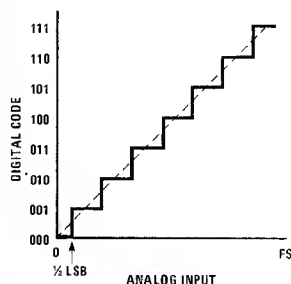
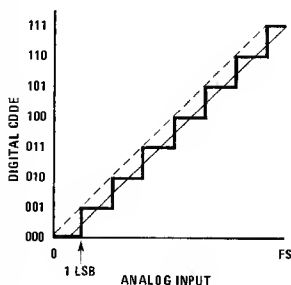

FIGURE 2. ADC Transfer Curve,  $\frac{1}{2}$  LSB Offset at Zero
FIGURE 3. ADC Transfer Curve, No Offset
**Quantizing Error** is the maximum deviation from a straight line transfer function of a perfect ADC. As, by its very nature, an ADC quantizes the analog input into a finite number of output codes, only an infinite resolution ADC would exhibit zero quantizing error. A perfect ADC, suitably offset  $\frac{1}{2}$  LSB at zero scale as shown in figure 2, exhibits only  $\pm\frac{1}{2}$  LSB maximum output error. If not offset, the error will be  $\pm 1$  LSB as shown in figure 3. For example, a perfect 12-bit ADC will show a  $\pm\frac{1}{2}$  LSB error of  $\pm 0.0122\%$  while the quantizing error of an 8-bit ADC is  $\pm\frac{1}{2}$  part in  $2^8$  or  $\pm 0.195\%$  of full scale. Quantizing error is not strictly applicable to a DAC; the equivalent effect is more properly a resolution error.
cation of  $\pm \frac{1}{2}$  LSB linearity implies error in addition to the inherent  $\pm \frac{1}{2}$  LSB quantizing or resolution error. In reference to figure 2, showing no errors other than quantizing error, a linearity error allows for one or more of the steps being greater or less than the ideal shown.